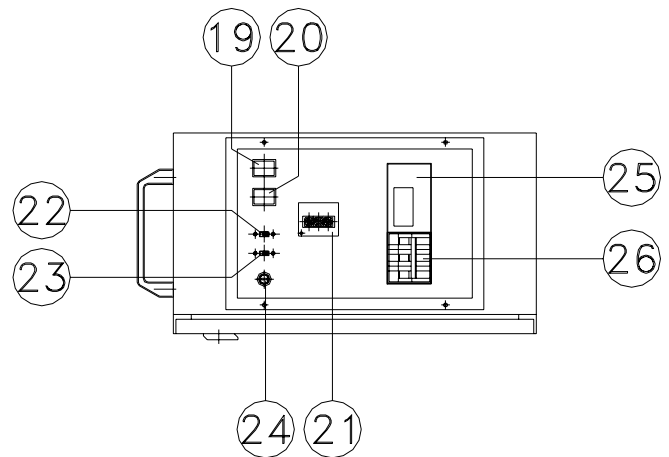

Figure 5
9.2) Side control panel (fig.5)
Connection cable to projector (fig.5/ 6)
Power supply cable (fig.5/ 7)
DMX input (fig.5/ 27)
DMX output (fig.5/ 28)